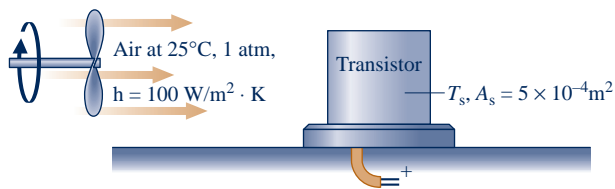

Fig. P2.60
2.60 As shown in Fig. P2.60, the outer surface of a transistor is cooled convectively by a fan-induced flow of air at a temperature of 25°C and a pressure of 1 atm. The transistor's outer surface area is 5×10^{-4} m². At steady state, the electrical power to the transistor is 3 W. Negligible heat transfer occurs through the base of the transistor. The convective heat transfer coefficient is 100 W/m² · K. Determine (a) the rate of heat transfer between the transistor and the air, in W, and (b) the temperature at the transistor's outer surface, in °C.